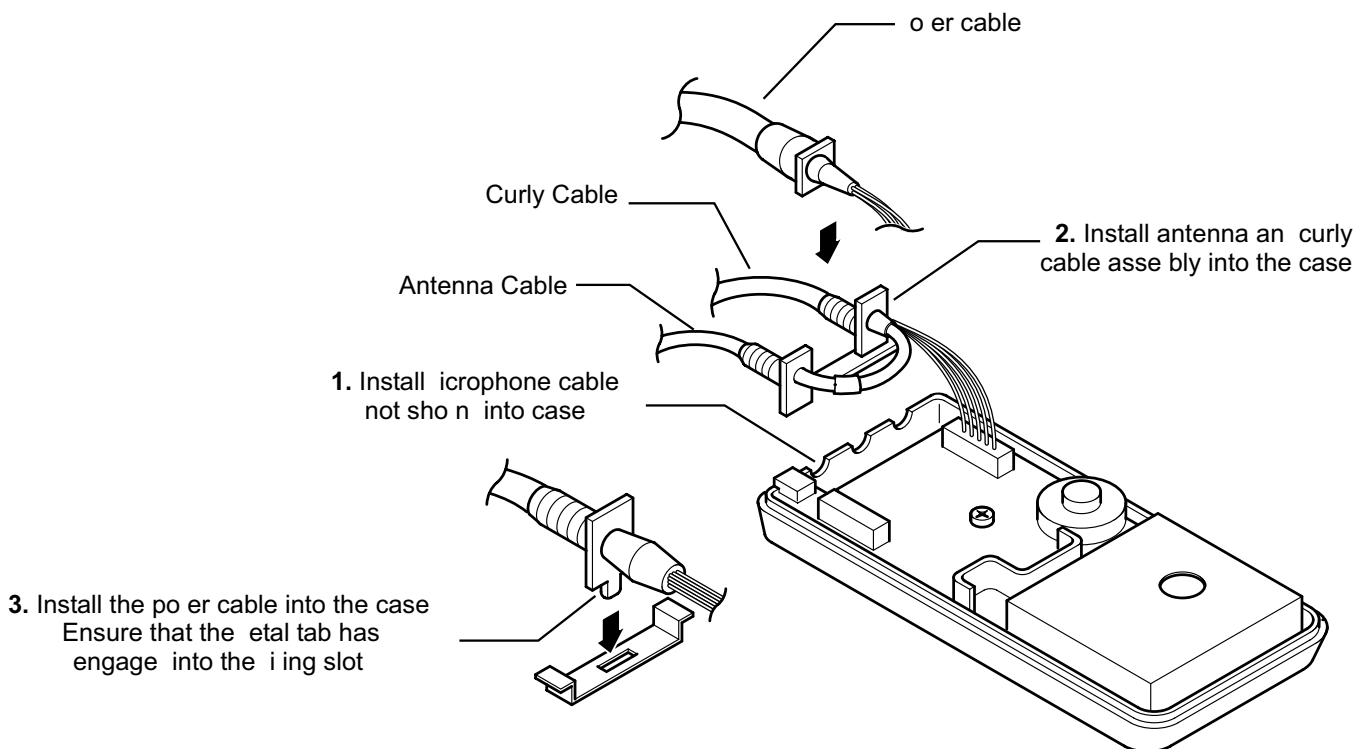

Figure 22: handset cable positioning
- Figure 22 Position the cables into the case.